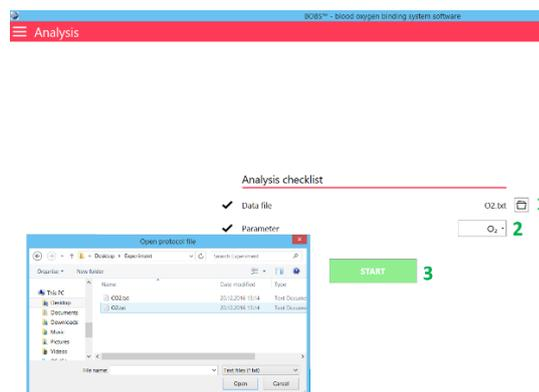

Figure 26: Load data file.
3. Load the raw data file (1, Figure 26).
4. Select from the drop down field if your experiment was an O₂- or CO₂/pH saturation experiment (2, Figure 26).
5. Click the `START` button to begin the analysis (3, Figure 26).